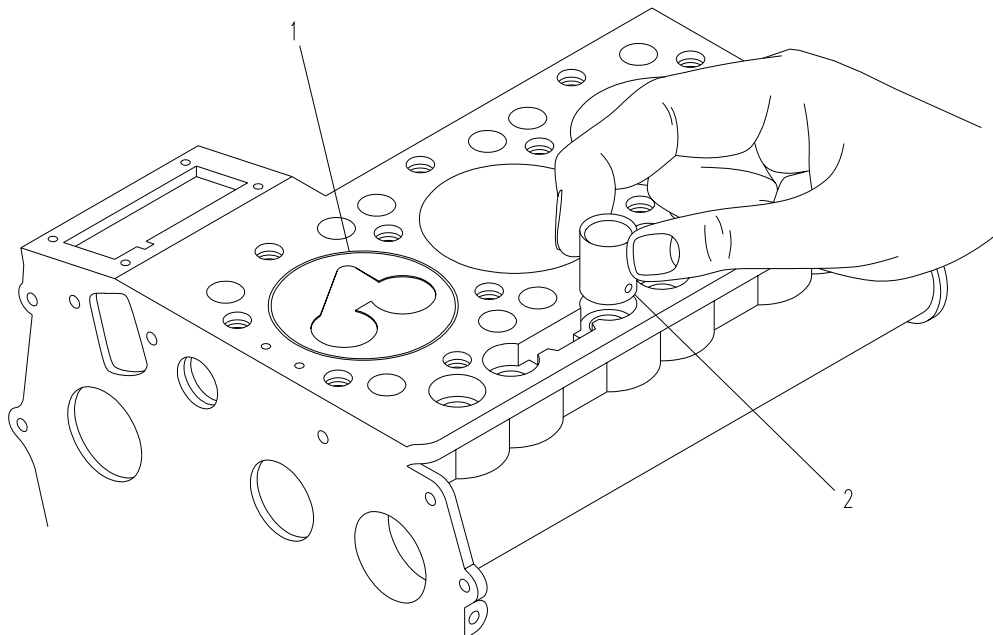

Figure 6-3. Tappets
- a. Remove tappets (2, Figure 6-3) from crankcase by hand and discard.
- b. Apply a thin layer of oil to each new tappet (2).
- c. Replace tappets (2) by hand in the same order they were removed.